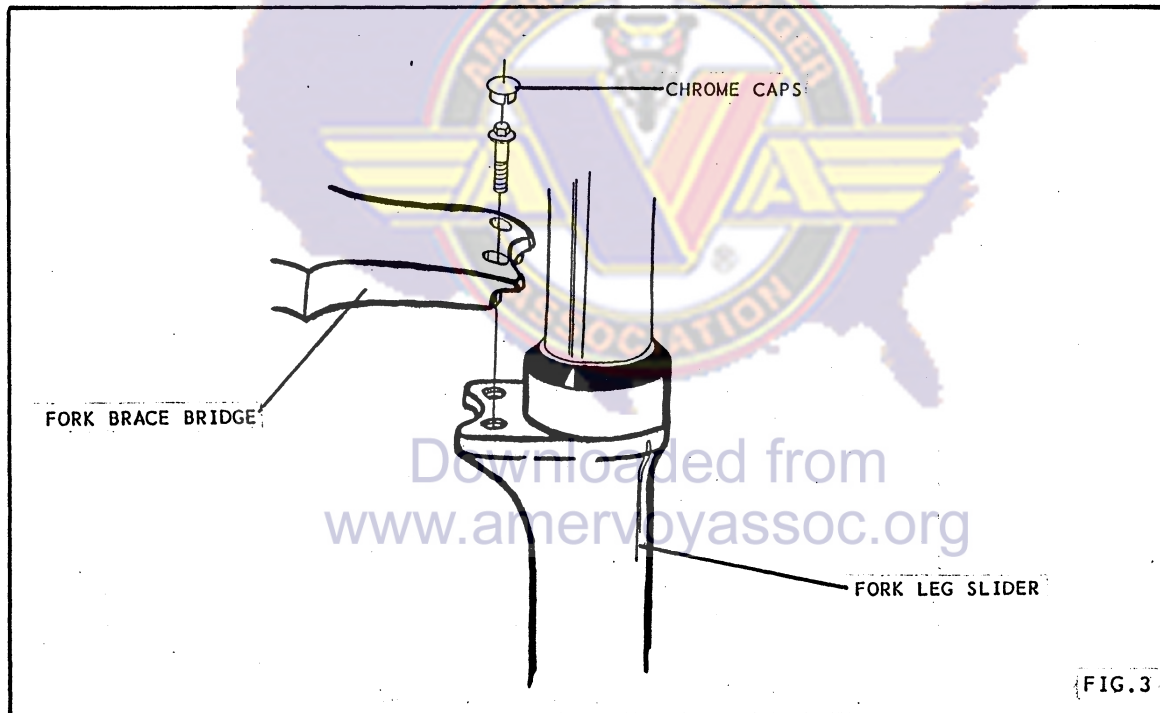

FIG.3
3. POP THE CHROME CAPS OUT THAT ARE IN THE TOP OF THE FORK BRACE BRIDGE, AND LOOSEN THE FOUR 8mm BOLTS UNDER THEM (FIG.3). THIS WILL ALLOW THE FORKS TO MOVE OUTWARD FOR EASIER INSTALLATION OF THE ROTOR COVERS.